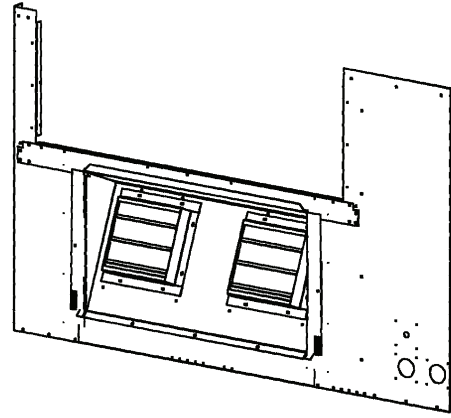

Fig. 11 — Power Exhaust/Relief Damper Assembly
4. Fold barometric relief assembly back into the unit. See Fig. 11.